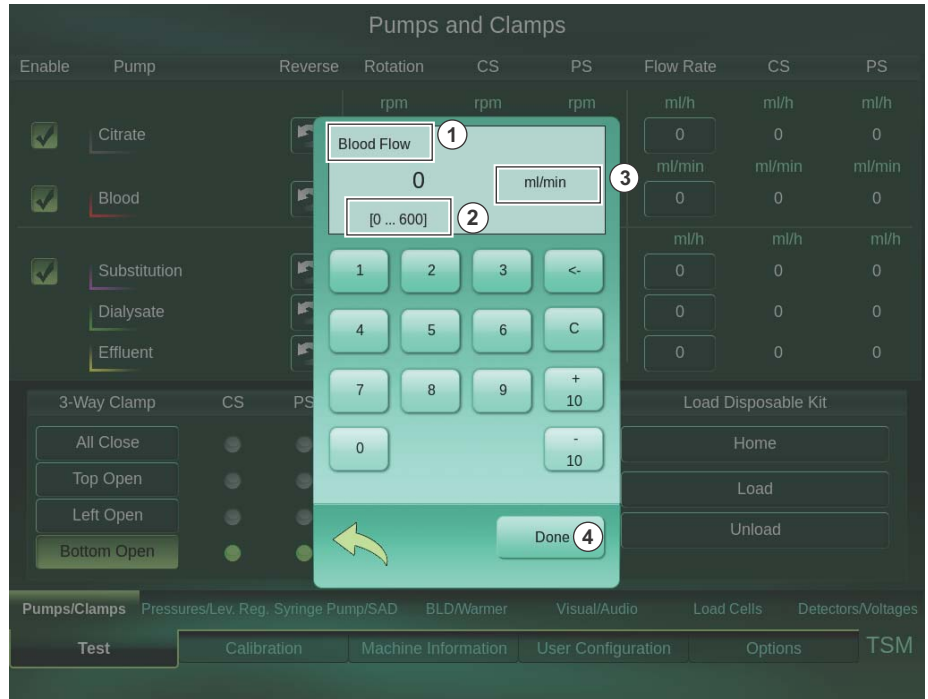

Fig. 6-8 Input box
The input box is opened by pressing the desired button to enter a new value. For example button ③ - ④ and ⑥ - ⑦ of Fig. 6-8 Input box (319).